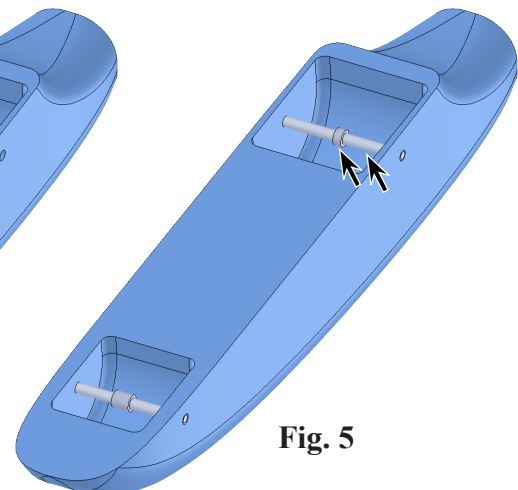

Fig. 5
Step 11. Repeat, Browse and place **REAR AXLE** and **REAR SPACER** at Rear Axle hole, **Fig. 5**.